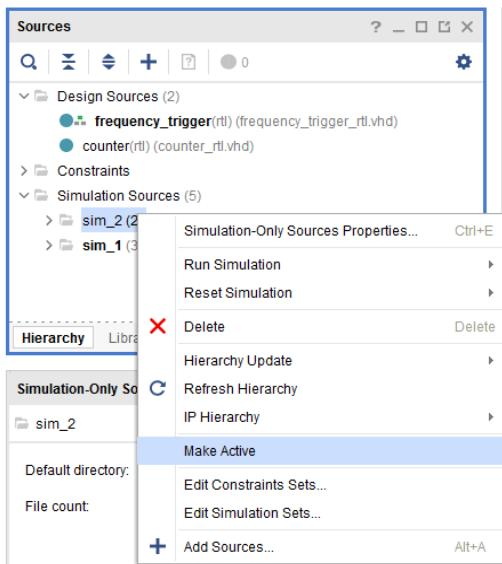

Figure 3.5: Make Active option
1. In the **Sources** window, under the **Simulation Sources**, select new **sim_2** simulation set, right-click on it and choose **Make Active** option, see Figure 3.5.